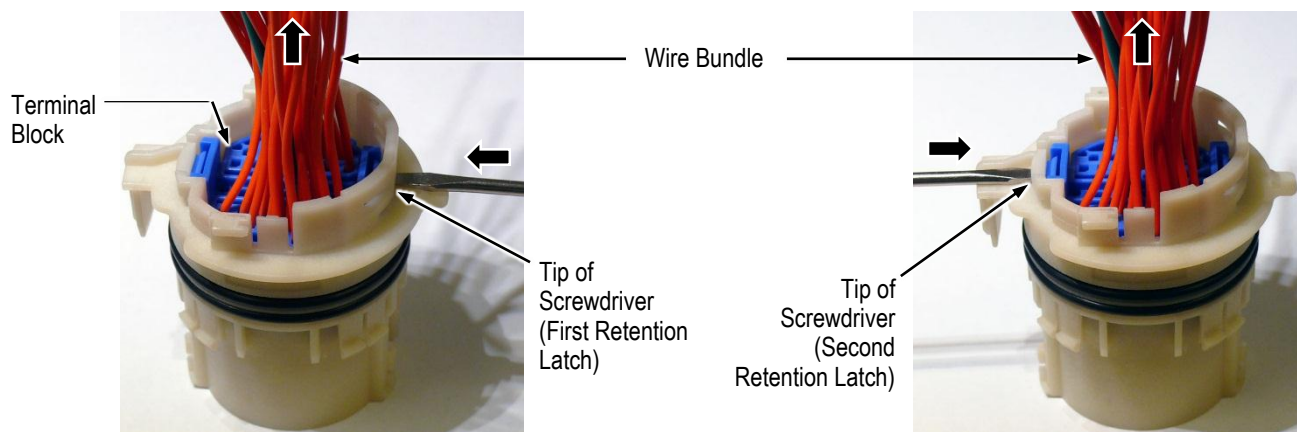

Figure 9
- a. Using the tip of a screwdriver, depress each retention latch (2 places) of the terminal block while pulling gently on the wire bundle until the terminal block is out of the cap housing. See Figure 9.